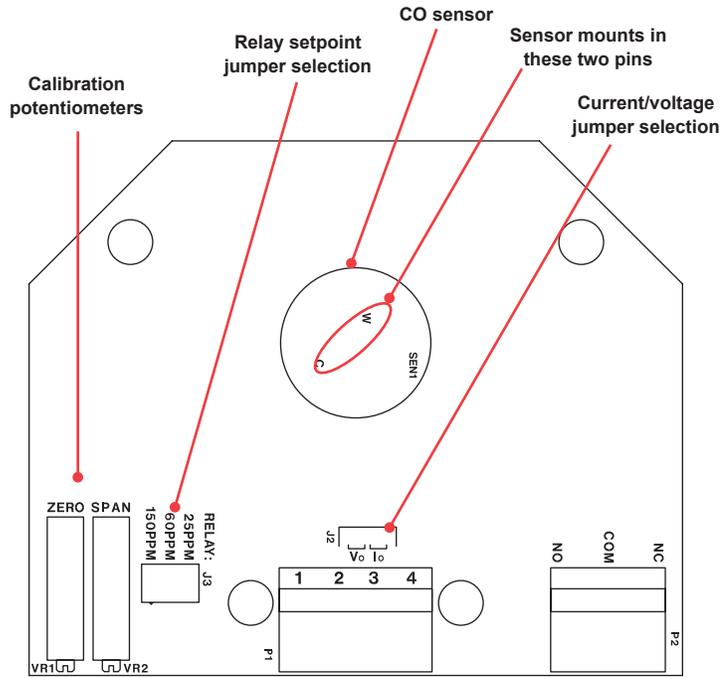

Figure 1: Circuit board layout
6. Proceed with all wiring according to Figures 1 through 4.
Use 22-16 AWG wire for wiring to the terminal blocks. Refer to Figures 1 through 4 for wiring information. The terminal blocks are removable for ease of installation. Please see Figure 1 below for the layout of the board within the CMS300 unit.
3. Replace the receiver shown in Figure 1 and 2 with a multimeter and restore the power to the transmitter.
11. Replace the multimeter with the receiver as shown in Figures 1 and 2 and restore the power to the transmitter.
1. Remove the cover plugs from the face of the unit and top cover. Locate the sensor, see Figure 1 – the sensor is mounted on three pin sockets. Remove and discard the sensor.
3. Install the new sensor into the four pin sockets. Note – the sensor has two pins, which are shown in Figure 1. The third and fourth pin on the board is for the stability of the sensor.